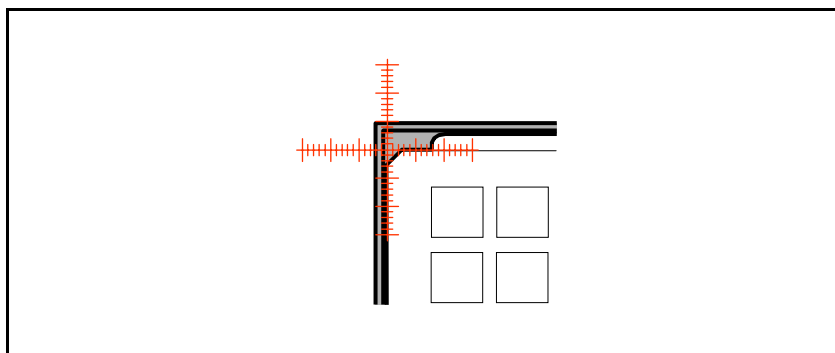

Figure 7-18. The cross hairs on the matrix tray corner.
9. Center the cross hairs on the selected matrix tray corner, see Figure 7-18.